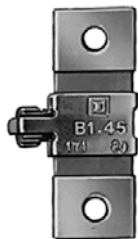

Figure 1
For a controller ambient temperature other than 40°C (104°F) trip current can be calculated by applying a correction factor from the curve in Figure 1. The approximate trip current for a particular ambient temperature is the product of (1) the multiplier M corresponding to the temperature and (2) the 40°C trip current rating.
**Example 2:** Determine the trip current for the motor and controller in Example 1, except the controller is in a 30°C (86°F) ambient temperature. From the curve in Figure 1 the multiplier M is 1.1 at 30°C. Approximate Trip Current is 16.0 x 1.25 x 1.1=22 Amperes
Always be certain the correct thermal units are installed in the starter before operating the motor. Thermal units should always be mounted so that their type designation can be read from the front of the starter (see Figure 1). Melting alloy thermal units should be mounted so that the tooth of the pawl assembly can engage the teeth of the ratchet wheel when the reset button is pushed.